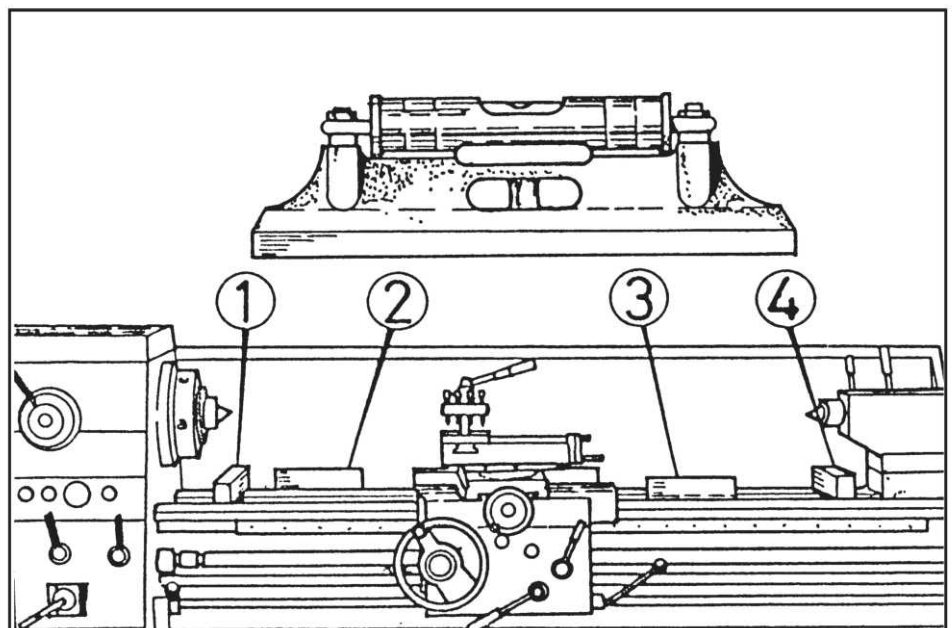

Fig. 2
Position lathe on foundation and adjust each of the eight/ten mounting feet to take equal share of the load. Then using a machinist's precision level on the bedways (as in Fig 2) adjust the feet to level up machine. Periodically at least every six (6) months check bed level to ensure continued lathe accuracy.
Position lathe over four bolts (1/2 in. or 13mm. diam.) set into the foundation to correspond with holes in the mounting feet; dimensions are shown on foundation plan. Accurately level the machine, as in Fig. 2 then tighten hold-down bolts. Re-check bed level.